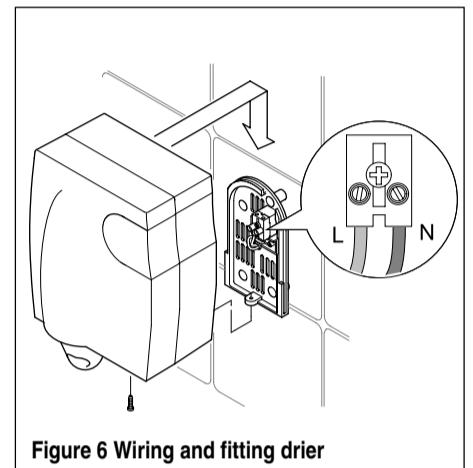

Figure 6 Wiring and fitting drier
- 4.7 Make electrical connections as shown in figure 6 ensuring screws are tight.